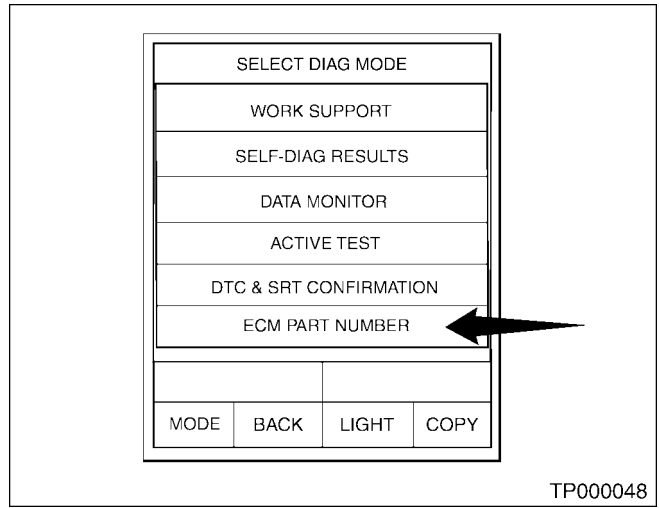

Figure 11
12. Select "ECM PART NUMBER" (see Figure 11).